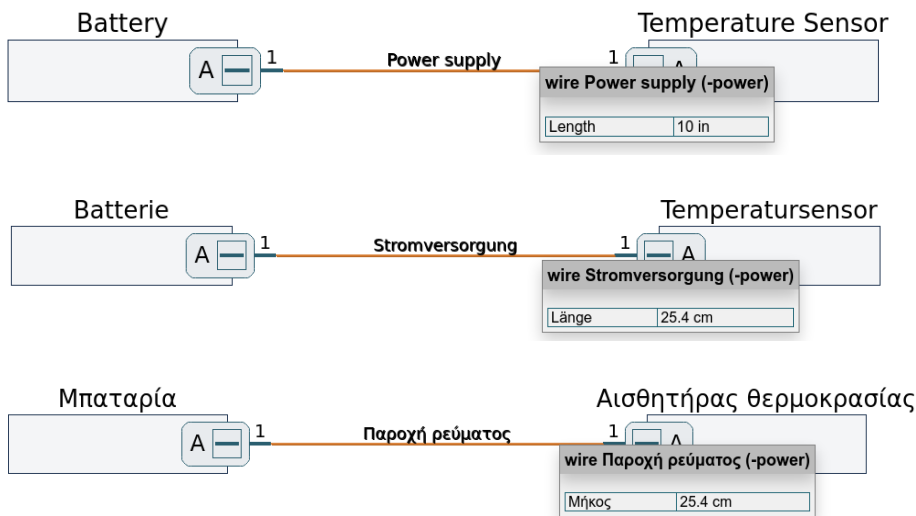

Figure 18. Schematics with different languages (here from top to bottom: English, German, and Greek)
Listing 23 shows an example of an EDML file that adds the languages English (EN), German (DE), and Greek (GR) to a simple model. The resulting schematics after activating the three languages are displayed in Figure 18.